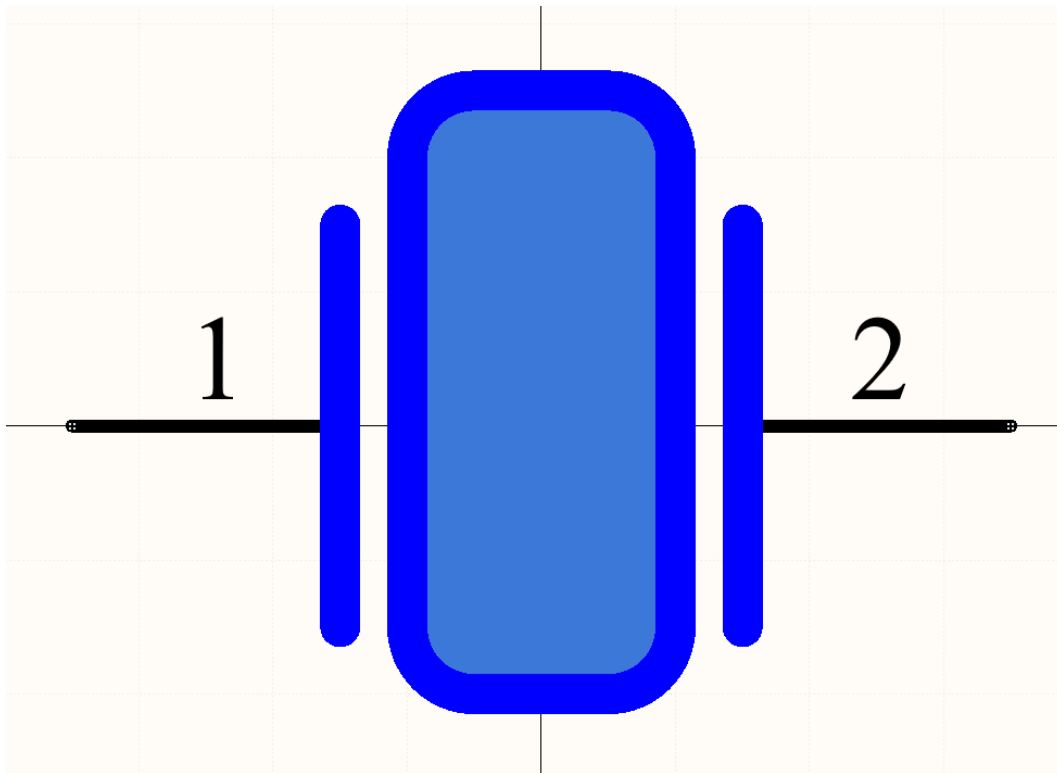

Figure 19. Crystal with Rectangle Body.
29. Draw the rectangle in the center of the symbol as shown in Figure 19 by clicking in the top left corner, then the bottom right corner to complete the shape. Feel free to make adjustments as needed.